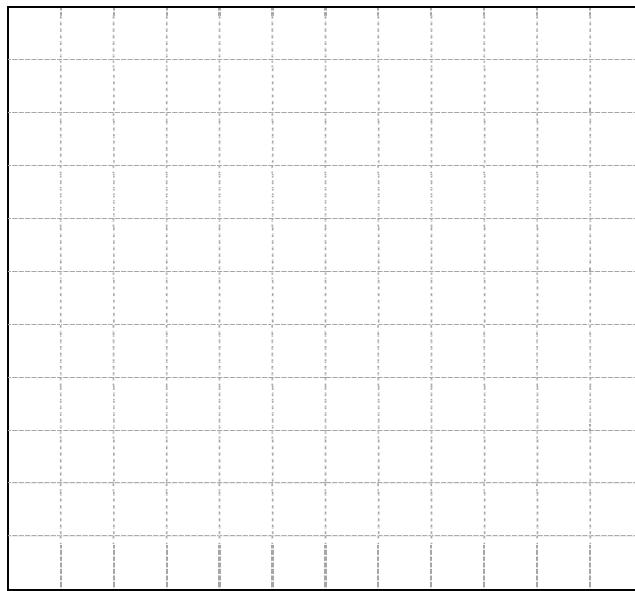

Figure 1-15. With and without torque boost characteristics.
- 29.** Plot the curves with and without torque boost in Figure 1-15. Place the Frequency values along the X-axis, and the Output voltage values along the Y-axis.